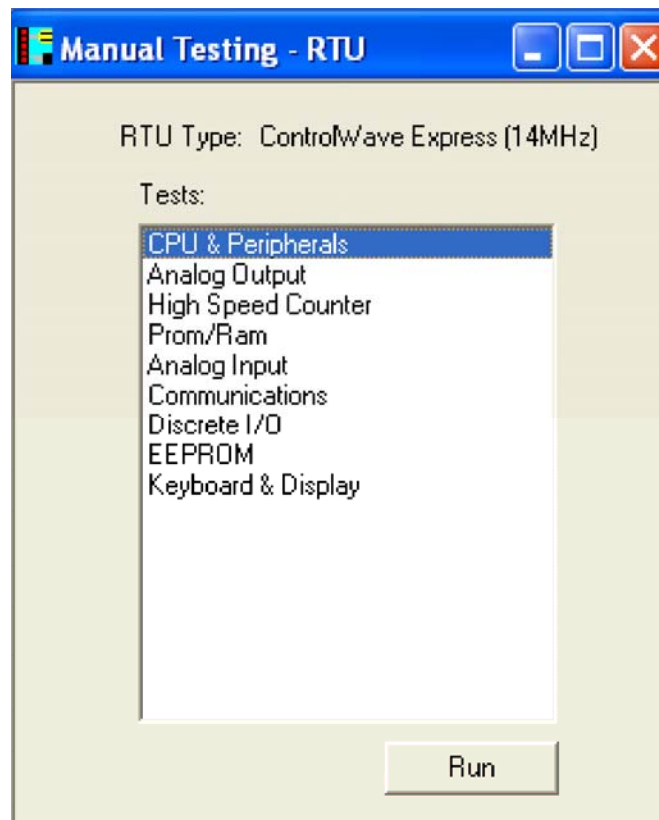

Figure 3-7 - WINDIAG Main Diagnostics Screen
3. Once WINDIAG has started, the Main Diagnostics screen of Figure 3-7 will appear.